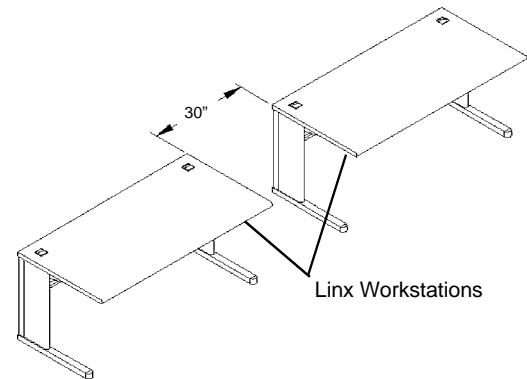

Figure 1
1. Position the two Linx Workstations to which the **Bolt-on Peninsula** is to be attached approximately 30" apart. See **Figure 1**.